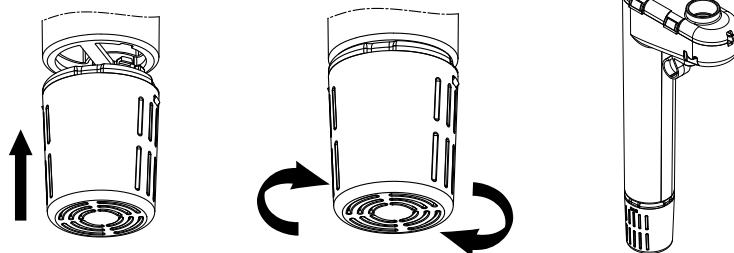

Figure 10
- Insert the mineralizer in the bottom of the shutoff device aligning tabs on mineralizer with the slots on the bottom and turn it all the way counterclockwise, as shown in Fig. 10.